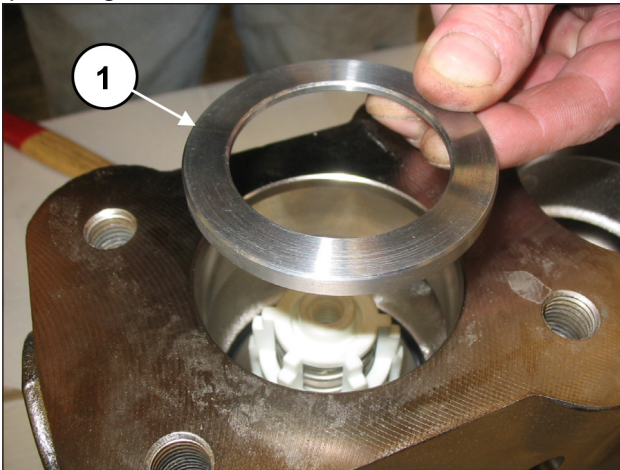
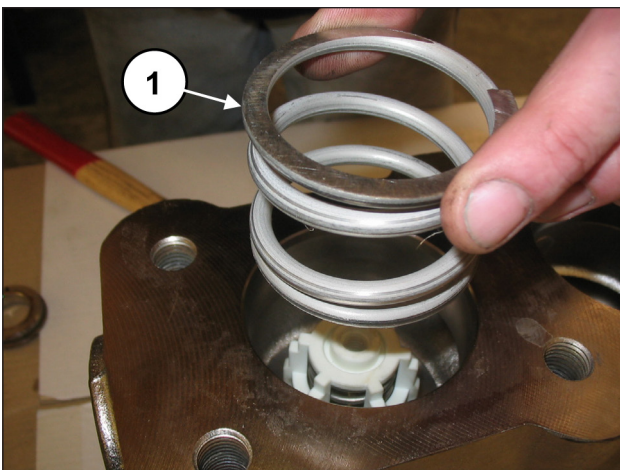

Fig. 129
Fig. 130
Insert the valve housing ring (pos. ①, Fig. 129) and the spring (pos. ①, Fig. 130).